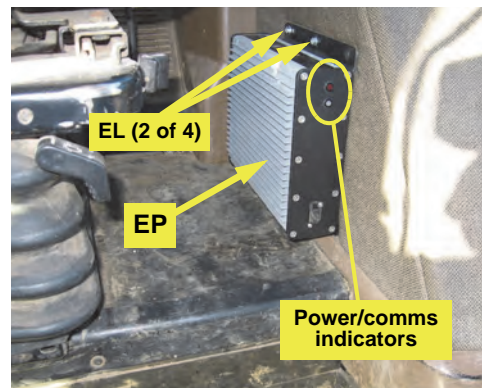

Figure 1e: Installed ECU/bracket
- h. Using hardware **EL** attach the ECU/bracket assembly to the right fender well inside the cab. Have the wire connections toward the rear, the power/communications indicators at the top (Figure 1e).